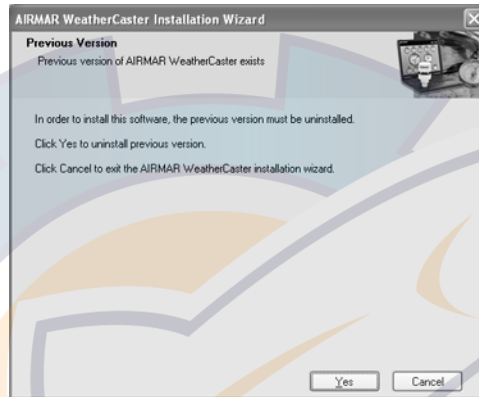

Figure 18. Previous Version window
**Note:** If WeatherCaster is already installed on your PC, the older version needs to be uninstalled before the installation can continue. WeatherCaster will automatically detect an old version, and the Previous Version window will appear (see Figure 18). Click Yes to uninstall the old version of WeatherCaster. Follow the screen prompts.